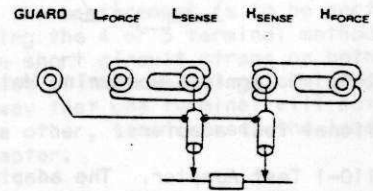

Figure 2-2. 3 Terminal Measuring Method
b. 3 Terminal measuring method. This method eliminates the effect of stray capacitance produced across test lead wires or a nearby conductor and is used to measure small capacitance values, high inductance values, and high resistance values. Refer to Figure 2-2.